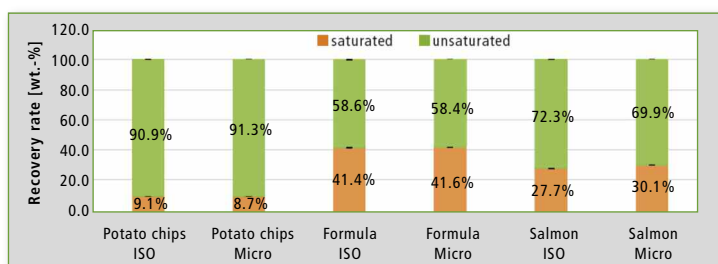

Figure 5: Fractions of saturated and unsaturated fatty acids in potato chips, infant formula powder and salmon determined with the microwave and ISO methods
0.12 wt.-% for saturated fatty acids and 58.4 ± 0.12 wt.-% for unsaturated. Figure 5 compares the percentage mass fractions of three samples obtained using the ISO and the microwave methods.